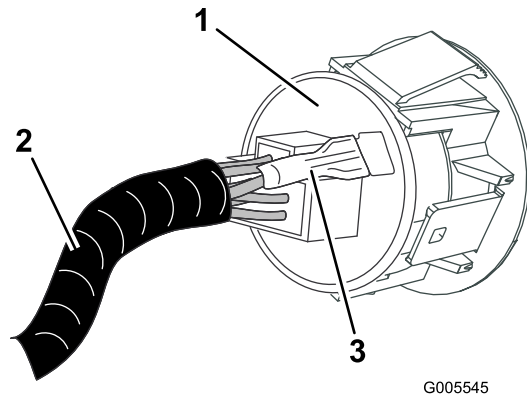

Figure 7
5. Route the piggy back terminal to the under side of the control panel and locate the ignition switch base (Figure 7).
6. Remove the single wire from the outer terminal at the base of the ignition switch (Figure 7).